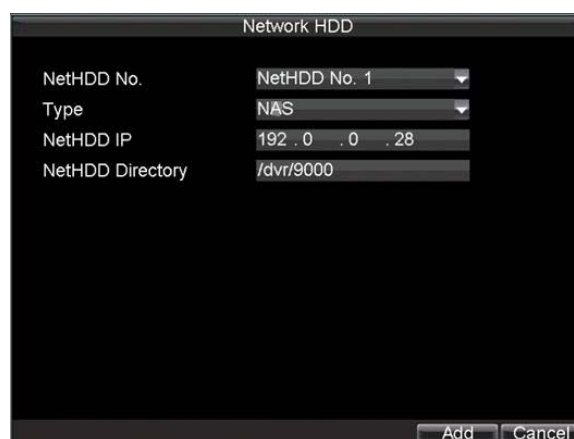

Figure 3. Network HDD Menu
3. Select type as NAS or IP SAN, shown in Figure 3 when selected as NAS.